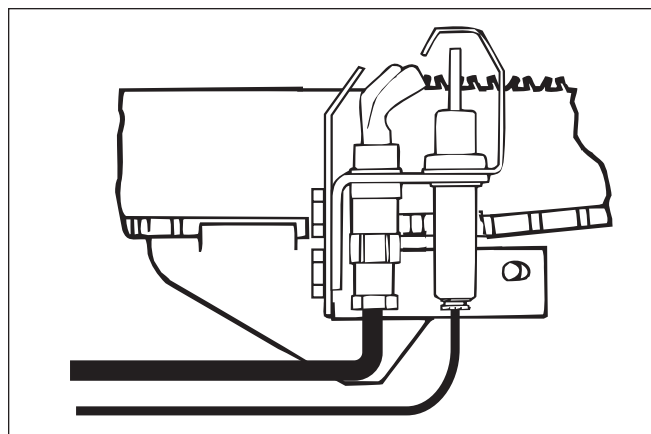

Figure 40. Pilot location (spark ignition).
- Make sure the pilot burner is positioned next to the main burner (see Figure 40) and there is no soot or dirt on it.